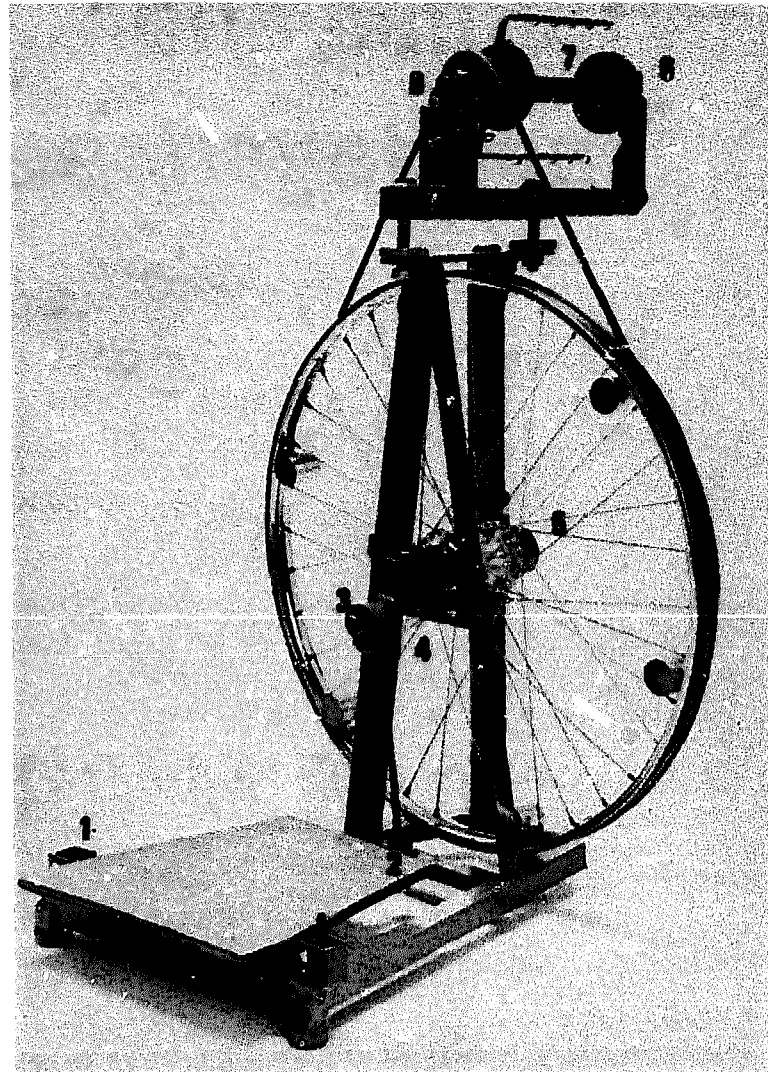

Figure 3.1 – Cleaning the Medleri Charkha
- After this clean the following points of the charkha with a little brush (for instance, a tooth brush) in this sequence (figure 3.1):